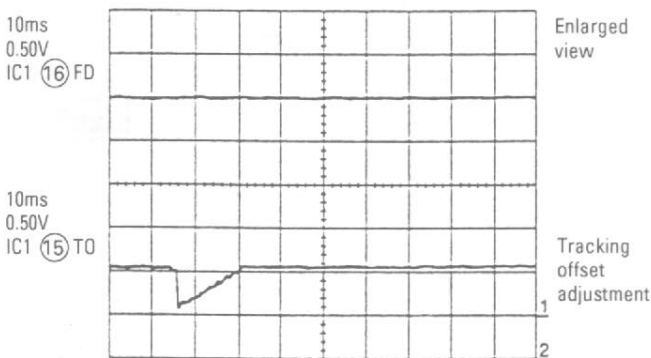

Fig.2
2. Tracking offset (Fig.2)
Does the output waveform of IC1 (16) (FD) match that shown in Fig.2?